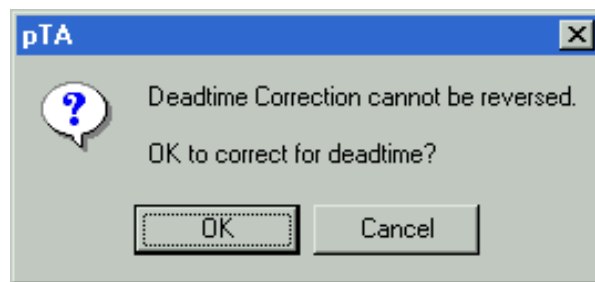

Fig. 34. Warning Dialog.
2. A warning dialog (see Fig. 34) will inform you that the correction cannot be reversed once you have completed it. If you have not saved a copy of the original spectrum, click on **Cancel** to close the warning box, save the original spectrum, then proceed with the correction.